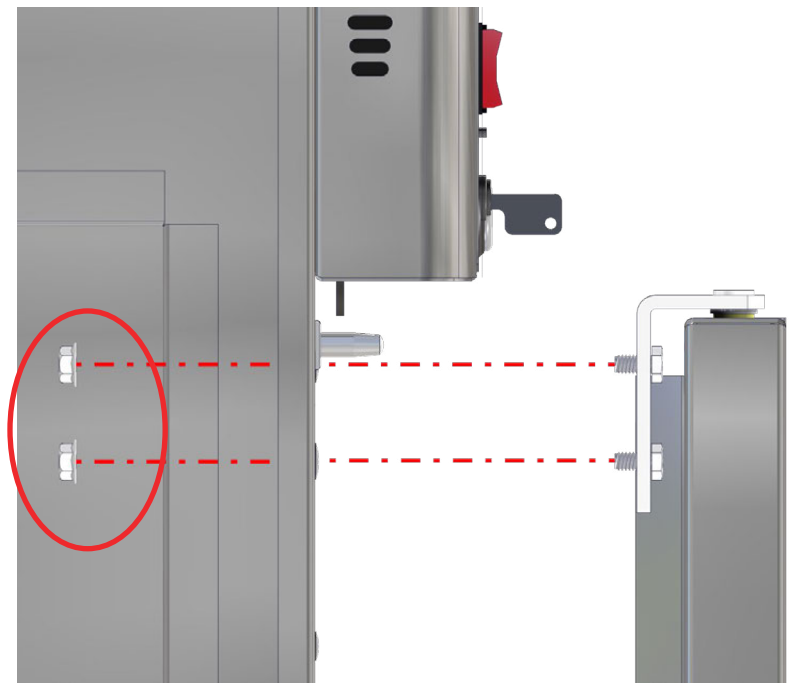

Fig. 67: Install Top Hinge and Secure Door
9. Insert the screws into the top hinge (or intermediate hinge, if applicable). Then insert the hinge pin into the top socket of the door, aligning the hinge screws with the top (or intermediate) hinge holes on the unit as shown in Fig. 67.
10. From the side of the unit, secure the door and top hinge with the hinge nuts shown circled in red in Fig. 67.